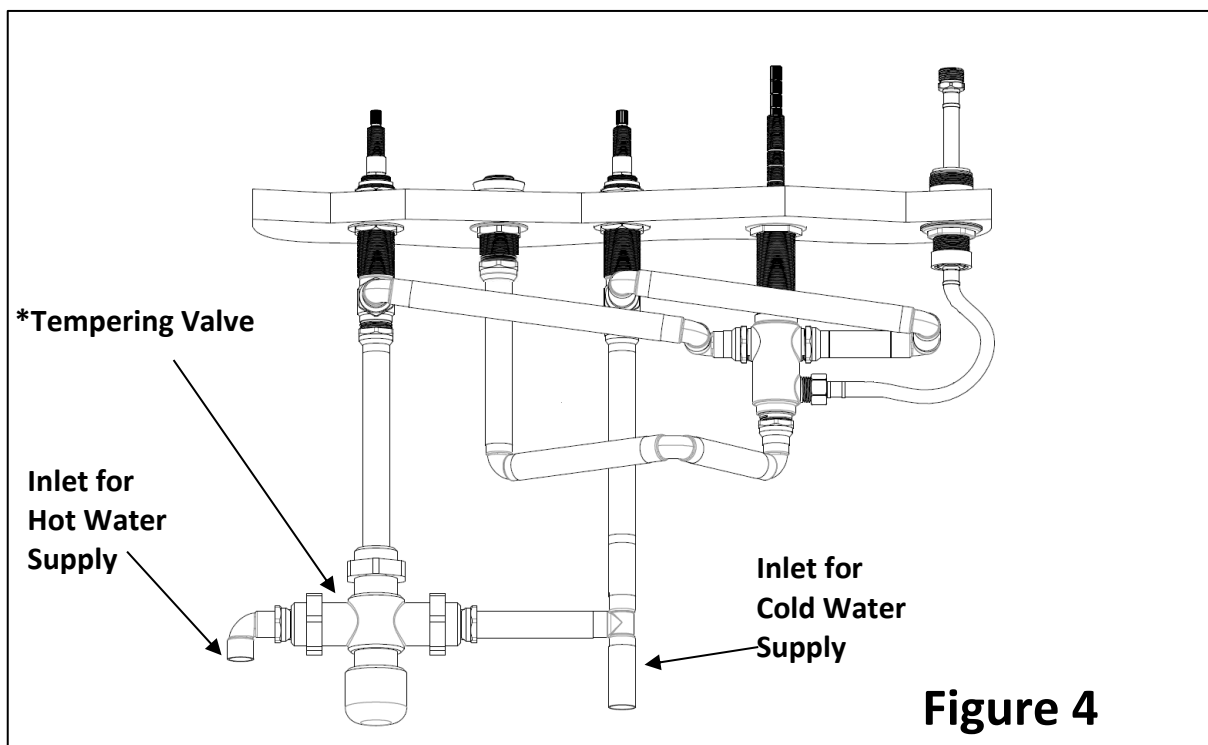

Figure 4
***Note:** Some states require an ASSE 1016 approved Tempering Valve installation with this product. See disclaimer (**Figure 4** in Page 5) for proper installation.